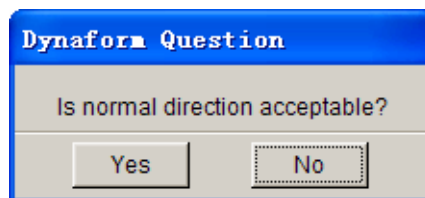

Figure 4.23: Dynaform Question dialog box
3. A arrow representing the normal direction of the selected normal is shown in the screen, and the popup window prompts “**Is normal direction acceptable?**”, i.e. ask if the user accepts the normal direction. See figure 4.23.